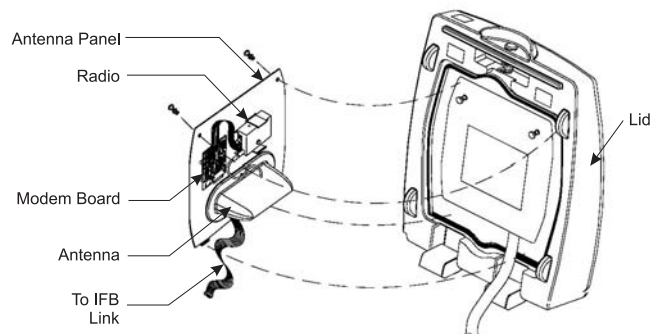

Figure 11: +LINK Radio Modem installation
1. Slide the radio unit into its mounting bracket on the antenna panel, as shown in Figure 11.